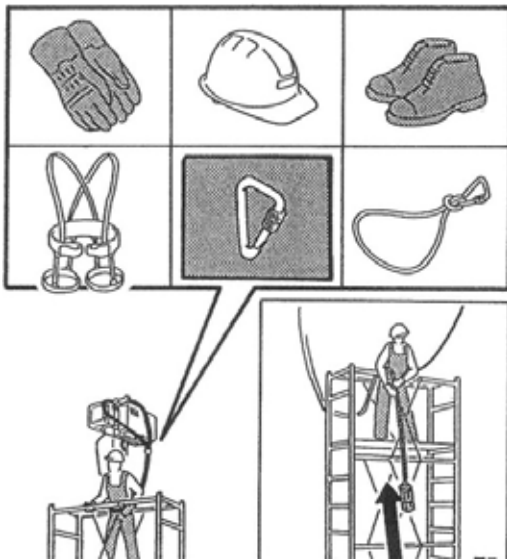

fig.101
5. Climb onto the scaffolding and raise the hoist's push-button panel. (fig.101)